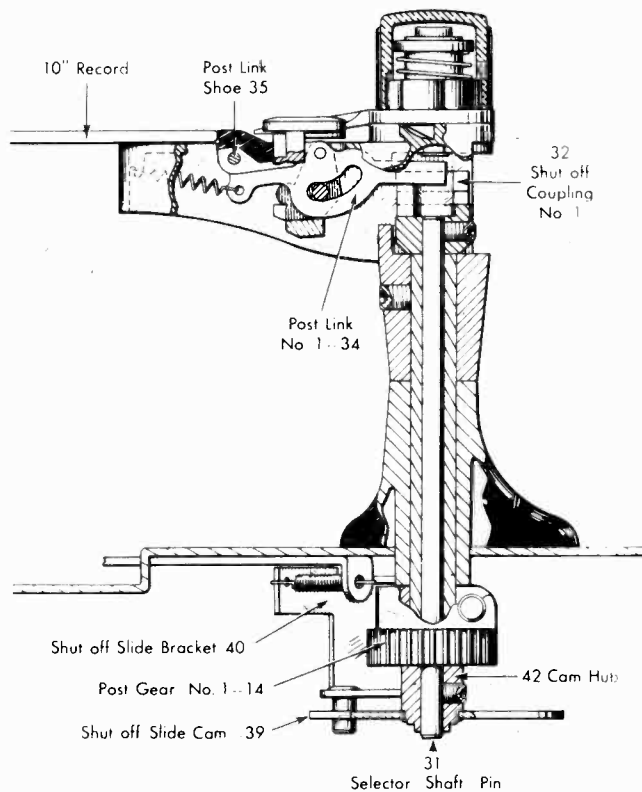

FIG. 13. CUTAWAY—SIDE VIEW
C. SELECTOR ARM #1 controls the automatic shutoff through the action of the post link shoe in post #1. There are three possible positions of this post link shoe: unloaded, pushed back (by a 10" record) or depressed (by a 12" record). Under the first condition, corresponding to an unloaded changer, the post link #1 will engage the selector arm coupling #1 and will set into motion the automatic shutoff cycle as described in Part III. In either of the other two positions—that is, either pushed back or depressed, the post link #1 entirely clears the shutoff coupling #1 (as shown in Fig. 13) and thus the automatic shutoff mechanism is not actuated.